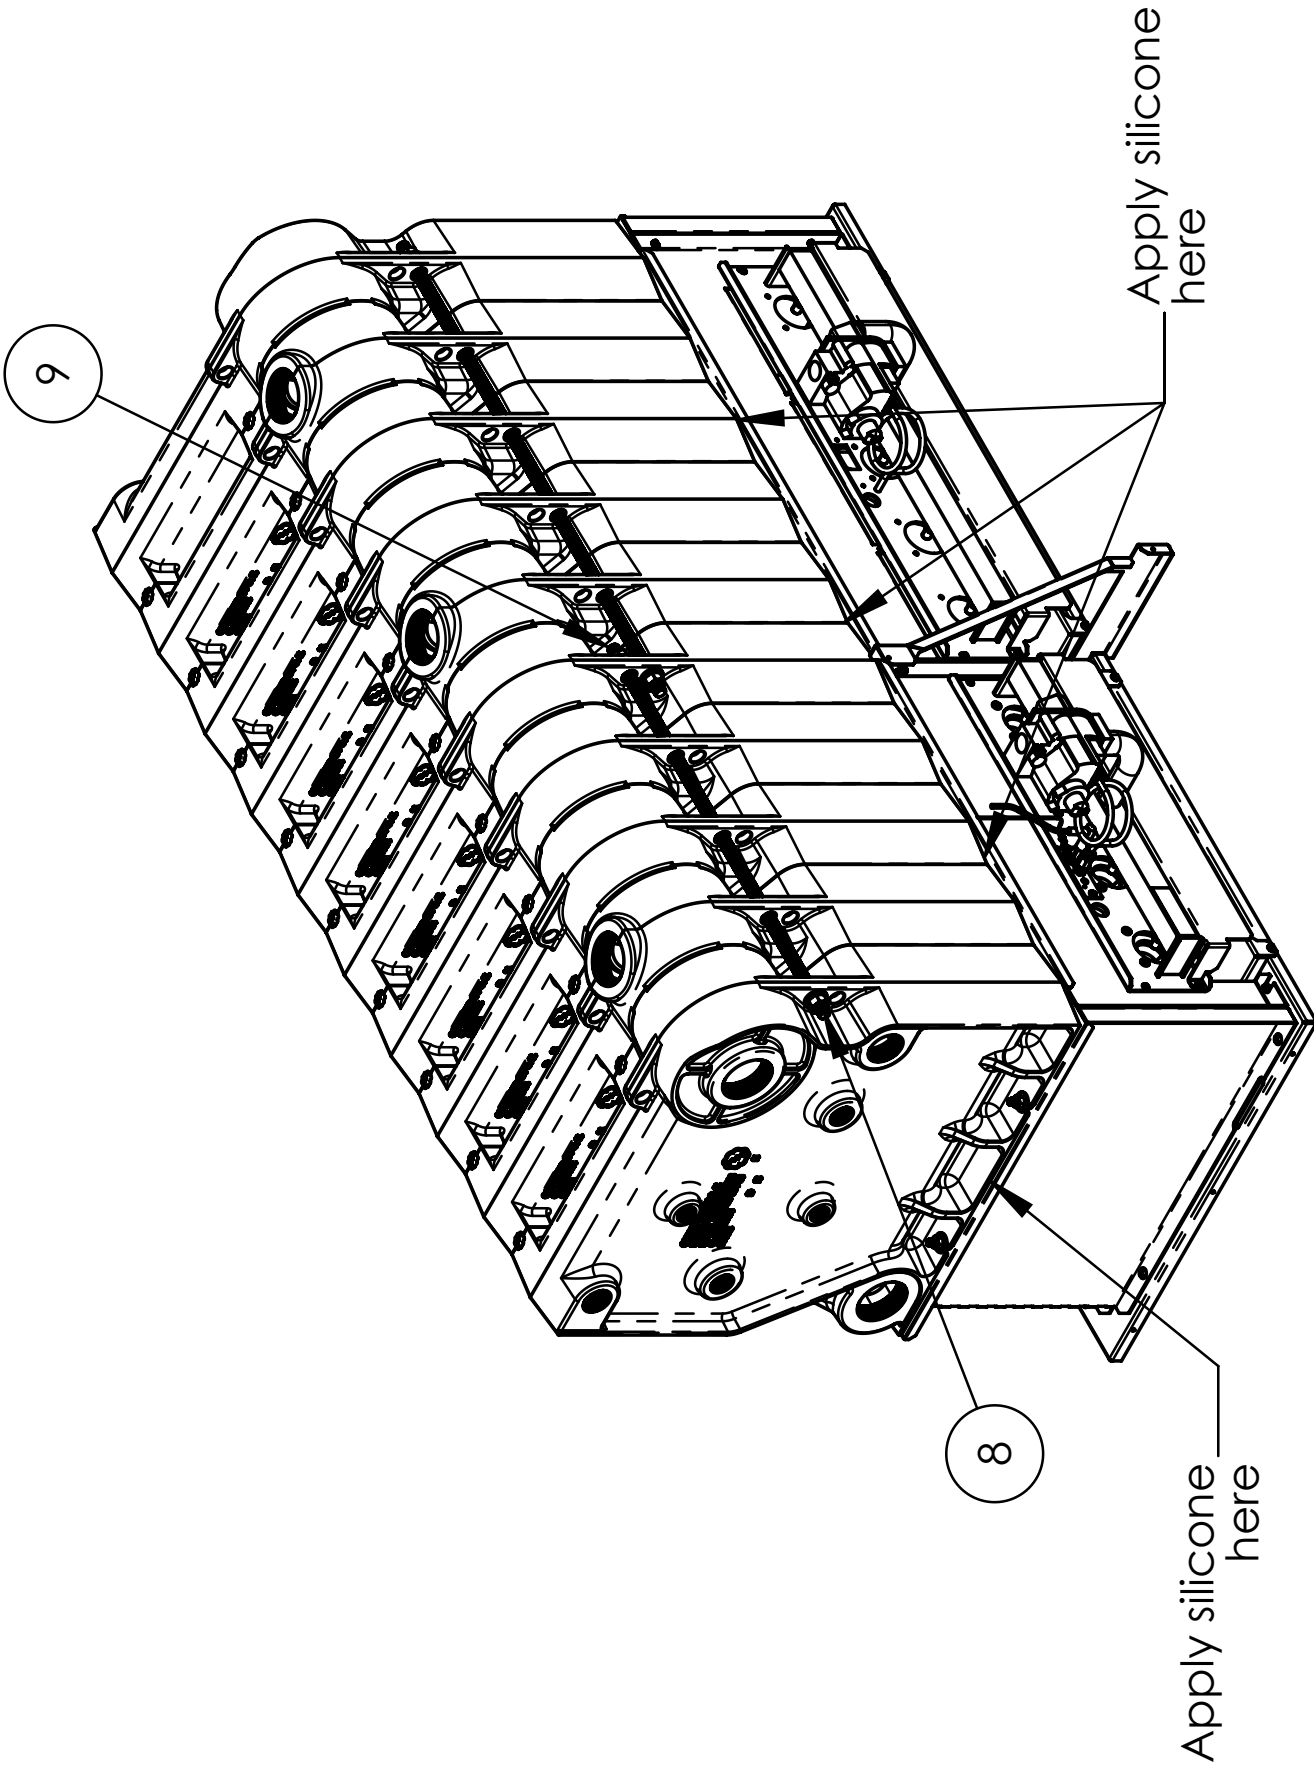

Figure 4-3: Split Base and Individual Sections
24. Apply provided SIL-BOND RTV 6500 to entire perimeter of base/section assembly joint. See Figure 4-3.